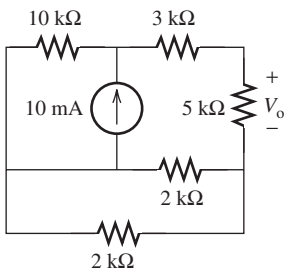

FIGURE P3.28 Circuit for Problem 3.28.
3.28 (H)* Find V_o in Figure P3.28.